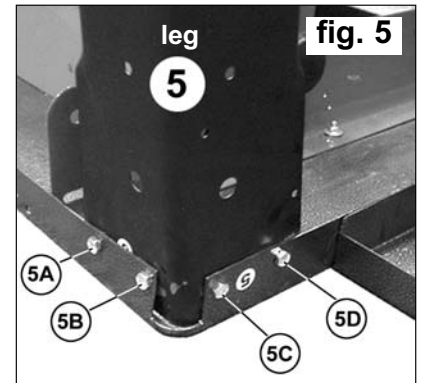

fig. 5
- 4.5 Attach leg 5 as shown in fig.5 using 4 sets of fixings in positions 5A, 5B, 5C & 5D.